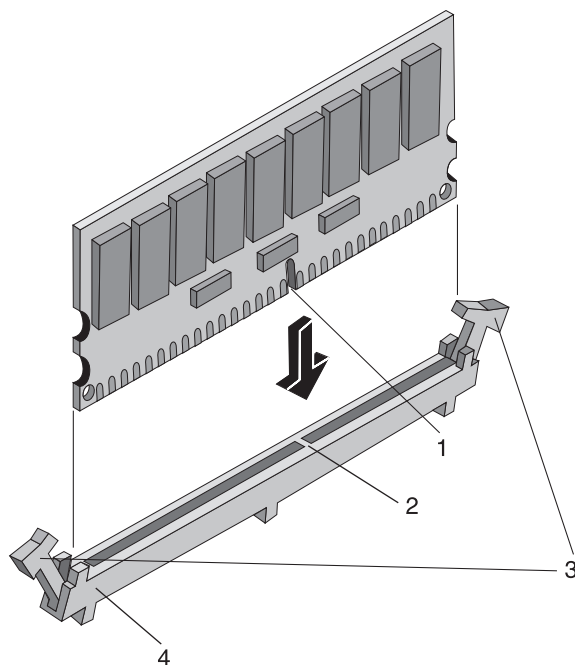

Figure 2-12: DIMM to slot alignment
7. Align the notch on the new DIMM with the key on the DIMM slot. Refer to Figure 2-12.